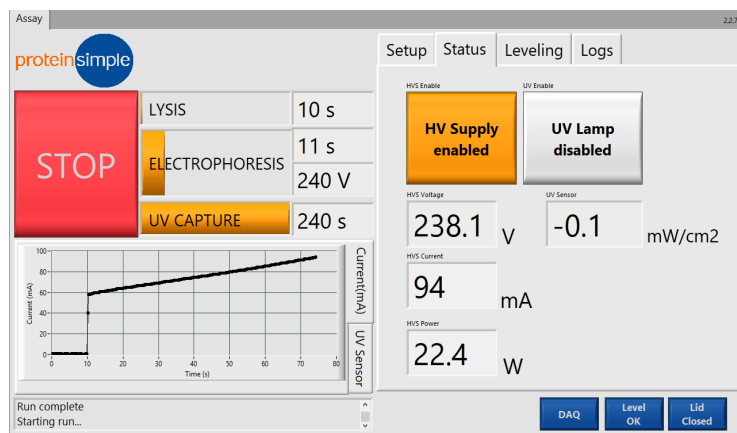

Figure 5-15: The software interface during a run.
- 11 Monitor the run progress by observing the count-down timers, UV flux and current traces on the left side of the screen. A typical run should take 5–6 minutes (Figure 5-15).